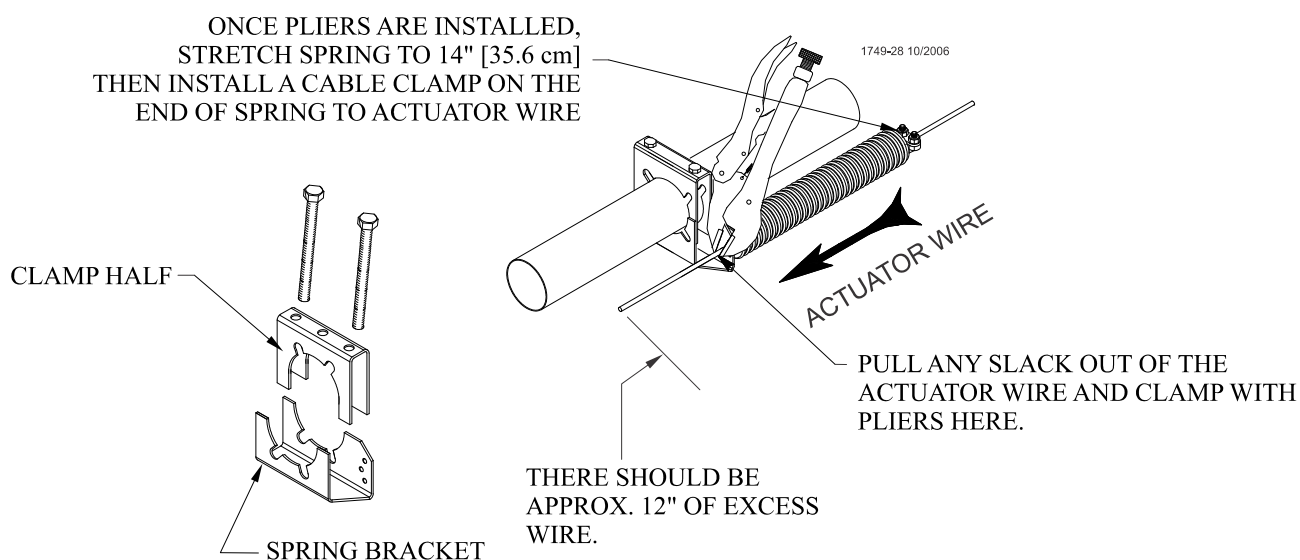

Figure 63. Terminal Bracket
7. Clamp with pliers once slack has been removed from the actuator wire, see figure 63.
10. Clamp the springs to the actuator wire using an 1/8 inch cable clamp, see figure 63. Repeat procedure for the remaining actuator wire installation,